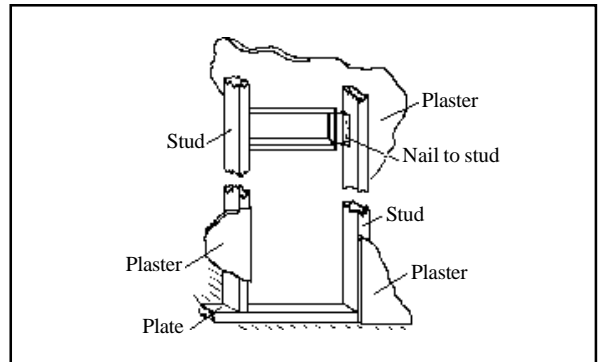

FIG. 7 - PLACING FRAME FOR REAR REGISTER
STEP 2. Install frame for rear register in hole and nail frame to stud as shown in Figure 7.